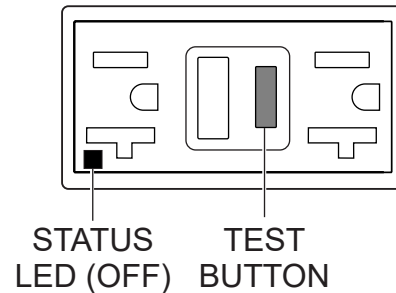

Figure 50. GFCI Receptacle (OFF)
4. Press the **TEST** button (Figure 50) on the GFCI receptacle and verify that the status LED turns **OFF**.